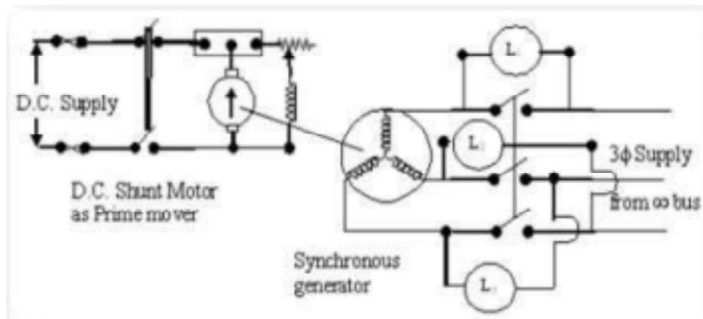

Fig 1.1: Connection diagram for synchronizing the alternator with 3-lamp method
1. Make the connection diagram as shown in figure 1.1